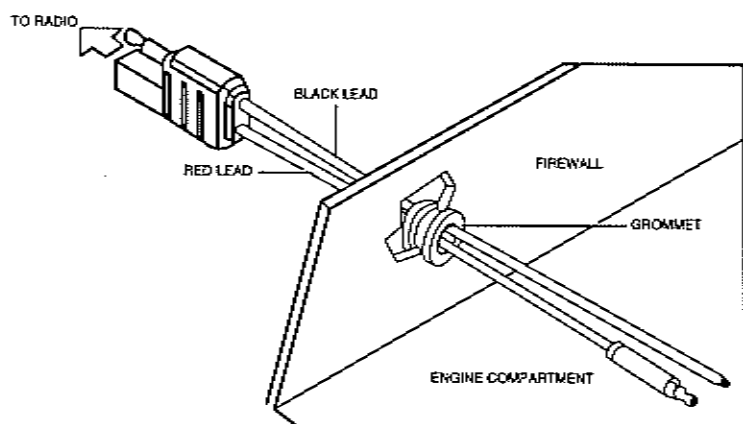

Figure 1. DC Power Cable Routing into Engine Compartment
- (3) From inside the vehicle, feed the red and black leads (without lugs attached) through the access hole and into the engine compartment. See Figure 1.